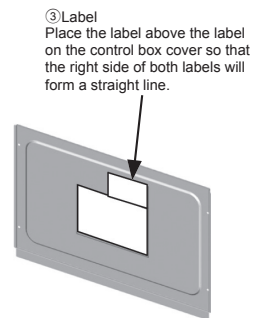

Figure 4
(4) Attach the label (enclosed part ③), which has the cautionary notes on replacing the circuit board, to the control box cover. (Figure 4)
(5) Replace the top panel, bottom panel, and the control box cover.